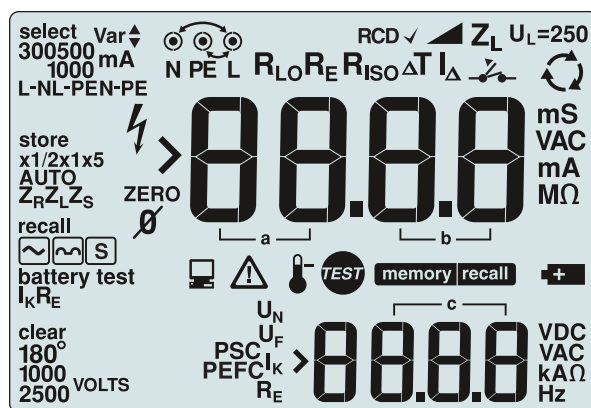
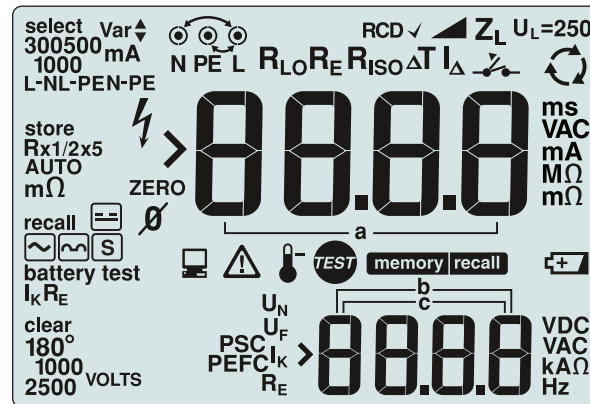

Figure 2. 1652C and 1653B LCD Tests
Figure 3. 1654B LCD Tests
4. Compare the display segments to Figure 2 for the 1652C and 1653B. Compare the display segments to Figure 3 for the 1654B. Check for any missing segments or poor contrast areas.
The UUT Touch Pad measures the potential between the operator and the UUT PE input jack. If the potential exceeds the 100 V, the  (Warning) symbol illuminates. Perform the following test to verify that the Touch Pad circuit is working properly (refer to Figure 3):
4. Touch the test lead's probe tip to the UUT Touch Pad, as shown in Figure 3.